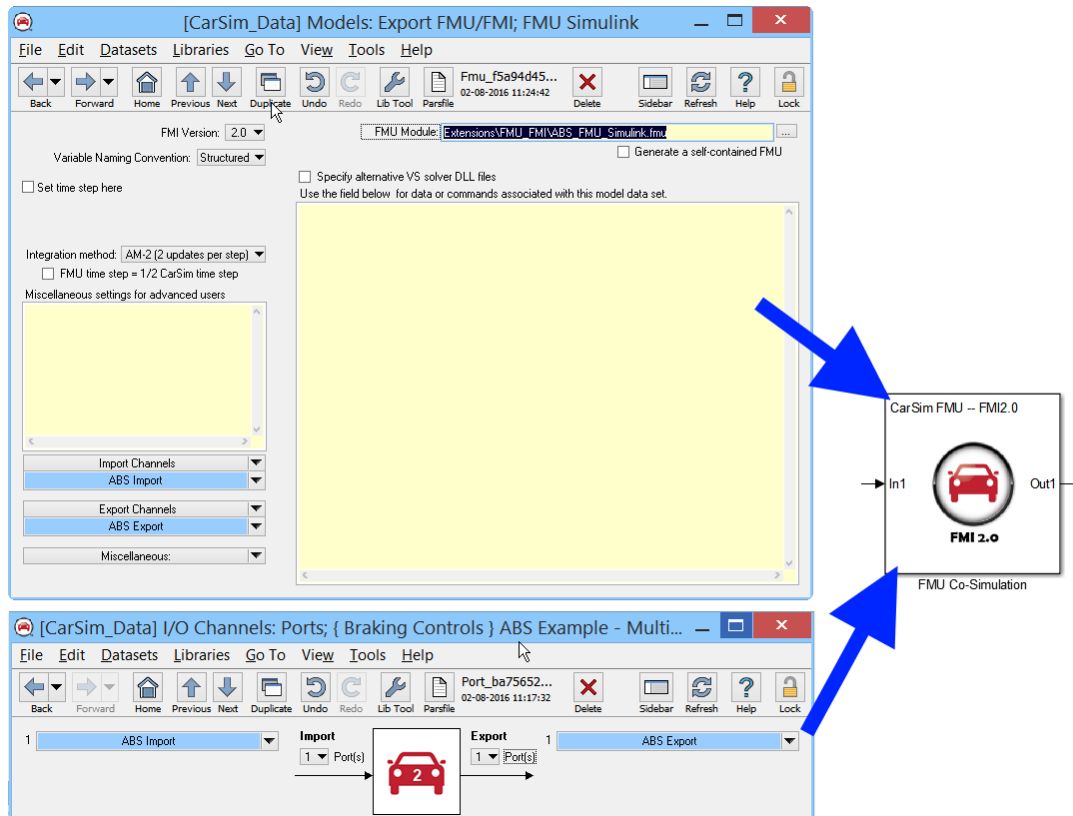
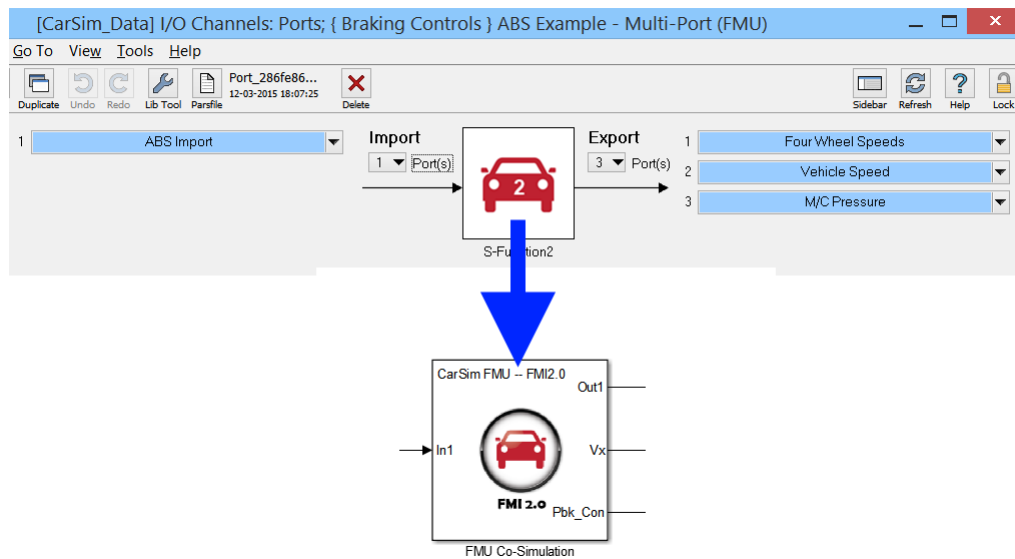

Figure 15. One Input port array and one Output port array.
Figure 16. Multiple Ports with separate arrays of Imports and Exports.
1. The **Structured** option provides Ports (Import and Export with Simulink) to match datasets linked to the **Models: Export FMU/FMI** dataset. In the example shown, there is a single Import Port and a single Export Port, with channels for each port set using the linked I/O Import and Export datasets (**ABS Import** and **ABS Export**, Figure 15).
The **Structured** option also supports linking to an **I/O Channels: Ports** dataset that can in turn link to a single Import and a single Export dataset (see the bottom part of Figure 15), or multiple Import and/or Export datasets (Figure 16).